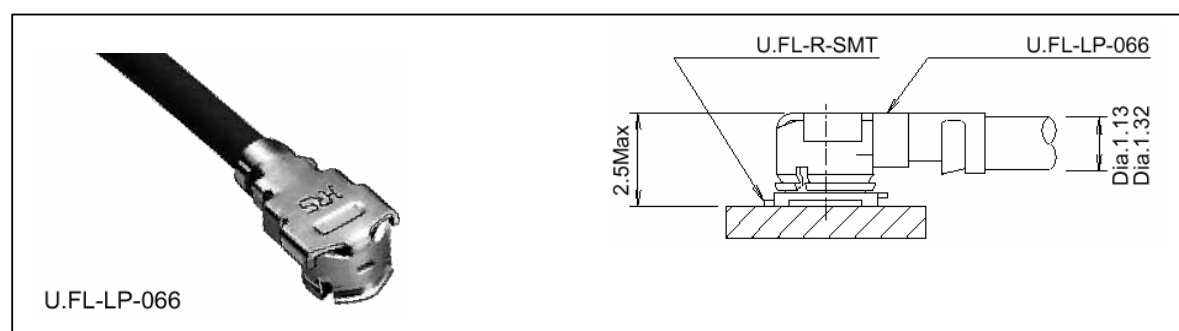

Figure 46: U.FL-R-SMT connector with U.FL-LP-066 plug
In addition to the connectors illustrated above, the U.FL-LP-(V)-040(01) version is offered as an extremely space saving solution. This plug is intended for use with extra fine cable (up to \varnothing 0.81mm) and minimizes the mating height to 2mm. See Figure 46 which shows the Hirose datasheet.